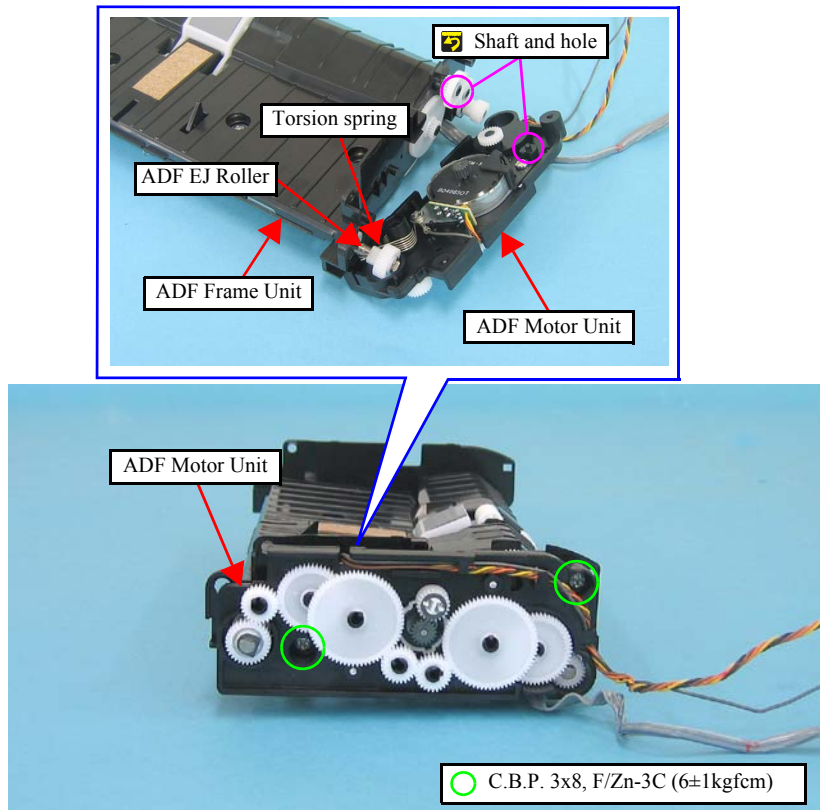

Figure 4-145. Removing the ADF Motor Unit (1)
- Insert the shaft of the ADF Motor Unit as shown in the Figure 4-145 to the hole of the ADF Frame Unit.